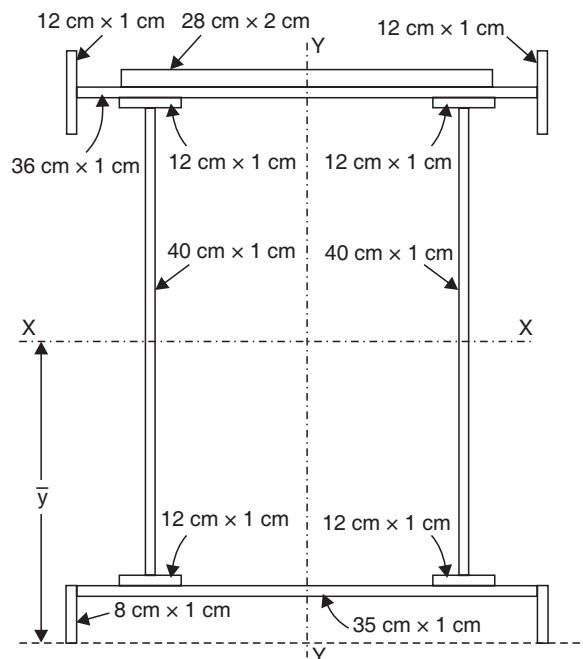

Fig. 5.40
12. Calculate the moment of inertia of the built up section shown in Fig. 5.40 about the centroidal axis  $XX$ . [Ans.  $I_{xx} = 336995.12$  cm4]